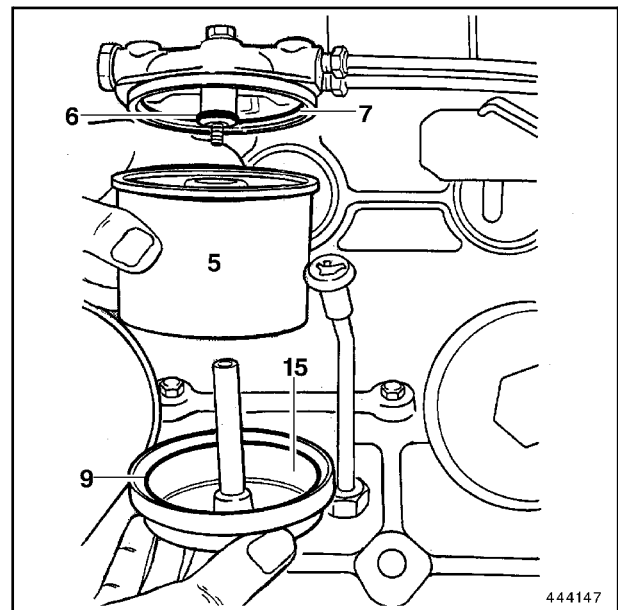

Fig. 2
- Tighten screw (14).
- Hold the filter bottom (15, Fig. 2) and slacken screw (14).
- Pull filter bottom (15) down.
- Withdraw filter cartridge (5) and discard without polluting the environment.
- Clean filter head and filter bottom (15).
- Replace seals (6 and 7) and the o-ring (9, Fig. 2) and smear slightly with clean fuel.
Filter cartridges delivered as spare cartridges have an internal seal (7, Fig. 2) held in place by a plastic ring.